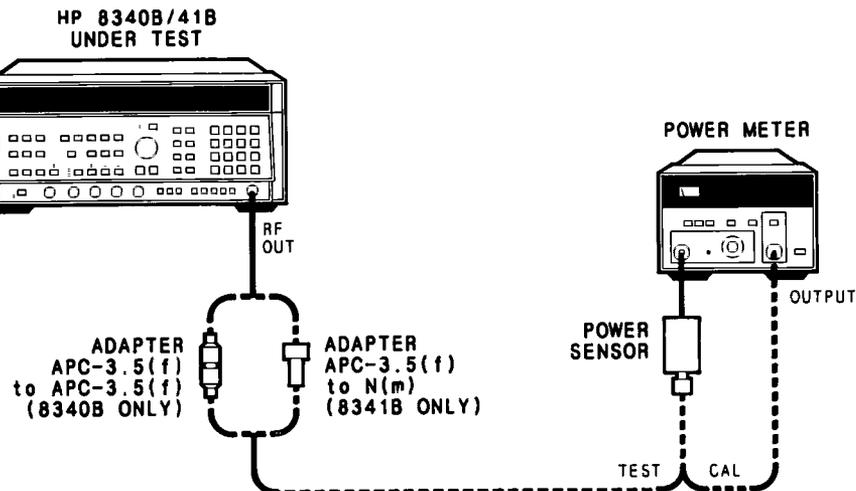

Figure 4-10. Power Sweep Test Setup
1. Connect equipment as shown in Figure 4-10. Connect the HP 8485A Power Sensor to the Power Meter. Allow a one hour warm up time. Set the Power Meter's calibration switch to include 1 GHz, then zero and calibrate the Power Meter before connecting the Power Sensor to the DUT.